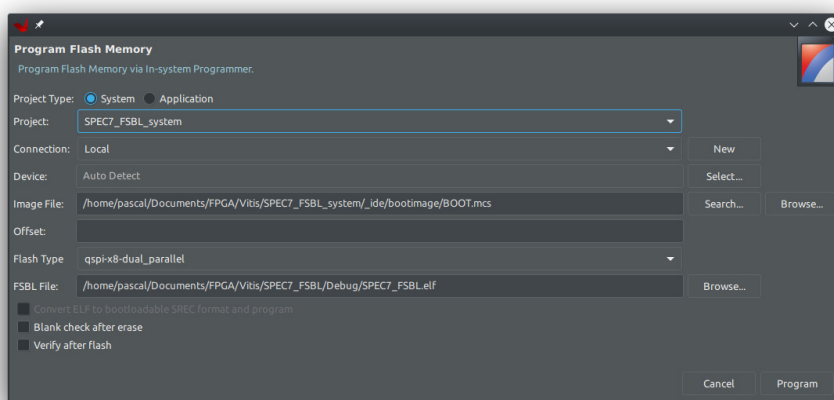

Figure 39: Program Flash in Vitis
18. Go to: Xilinx → Program Flash. Double check if the *.MCS* and *.elf* files are the same as the ones generated in step 16 and 12. Then check if the flash type is set to “qspi-x8-dual-parallel”. As can be seen in figure 39.